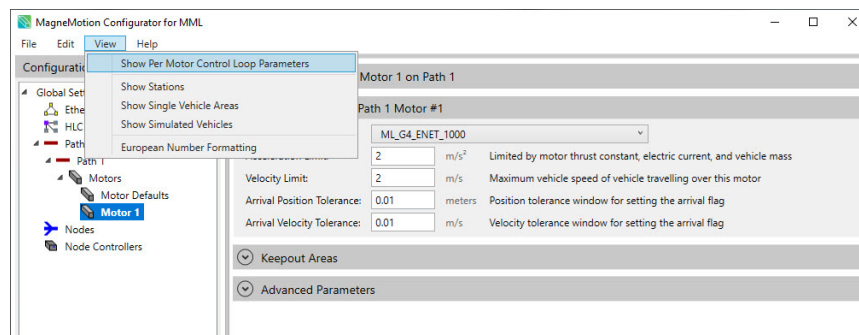

Figure 4-40: Show Per Motor Control Loop Parameters Option Selected
*A check mark is displayed before the **Show Per Motor Control Loop Parameters**, see Figure 4-40, to indicate it is selected.*